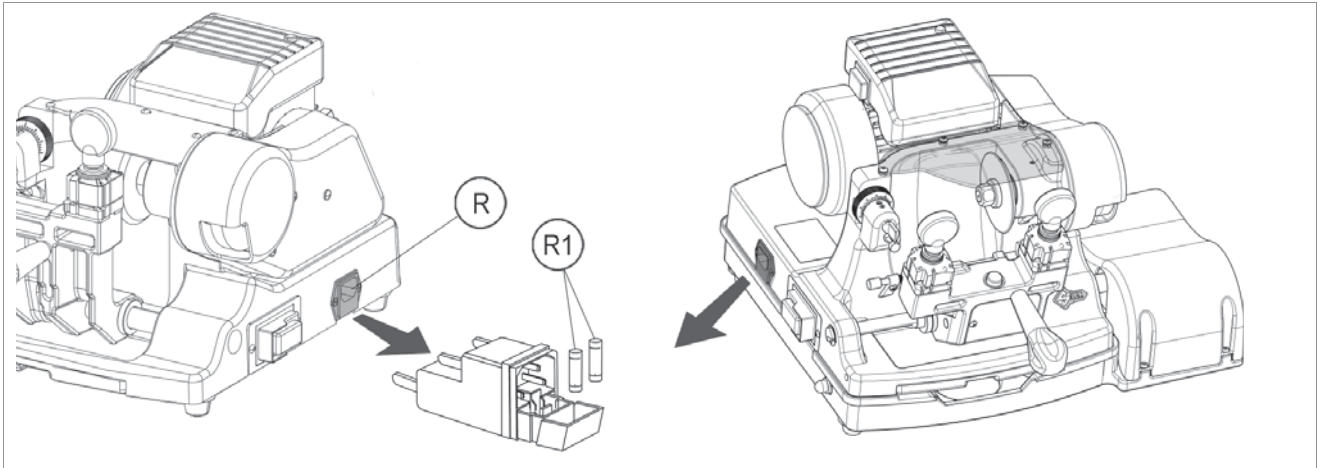

Fig. 39
- 1) Remove the fuses box from the key-cutting machine socket (R) (Fig. 39).